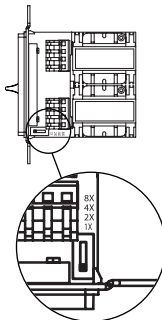
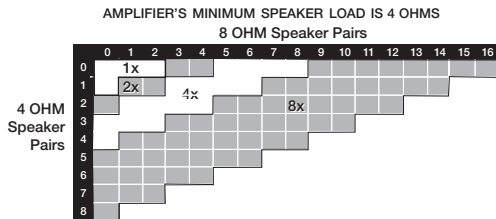
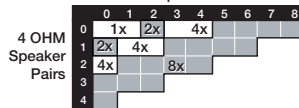

Figure 1
Figure 4
Figure 5
3. Read the correct switch position from the charts on **page 7**. See **Figure 4** if your amplifier can drive a 4-ohm load. See **Figure 5** if your amplifier must have an 8-ohm speaker load.
4. Set the switches on all of the controls to the same position (1x, 2x, 4x, or 8x). See **Figure 1** on **page 5**.
5. Set the Impedance Magnification Switch (See **Figure 1**) as determined by the IM charts (**Figures 4** and **5** on **page 7**).